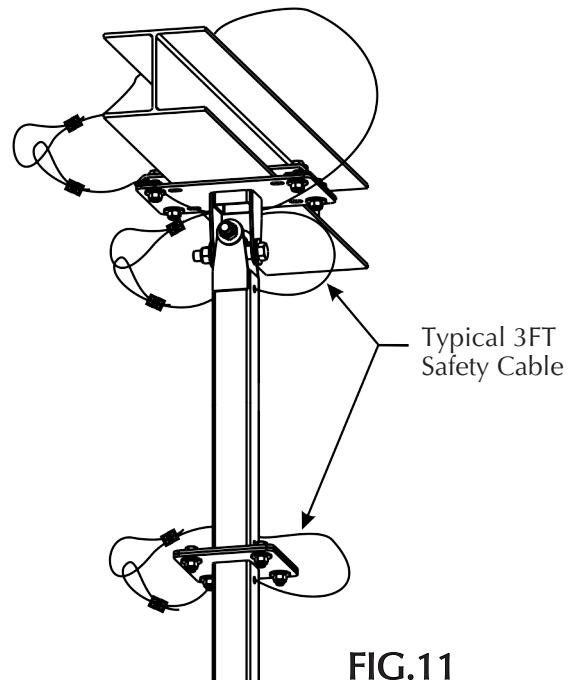

FIG.11
2. Position the safety cable as per Fig.11, loop at both ends.